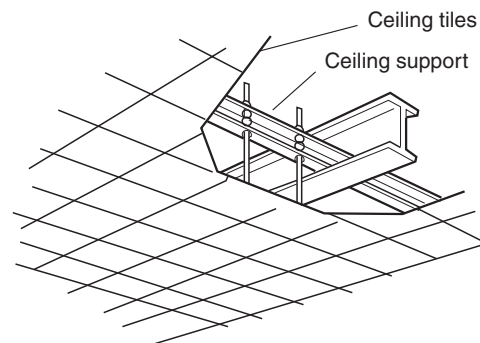

Fig. 1-70
- Use existing ceiling supports or construct a suitable support as shown in Fig. 1-70.